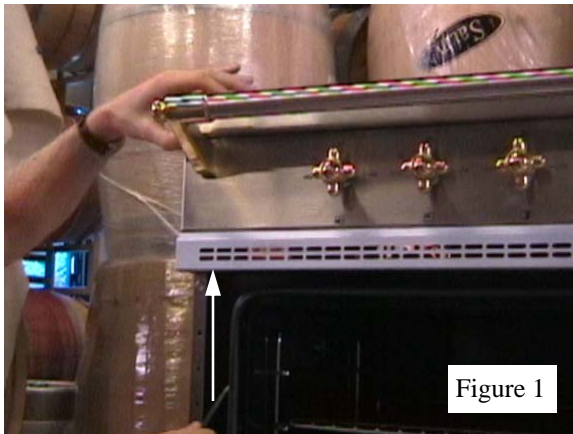

Figure 1
1. Loosen the vertical rod on the far left side. (Figures 1 and 2)